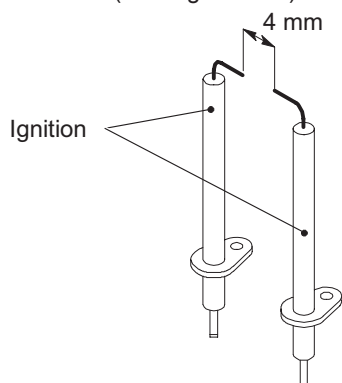

Figure 18.2
- 2 Check for the correct distance between the metallic edges of the ignition electrodes (see Figure 18.2).